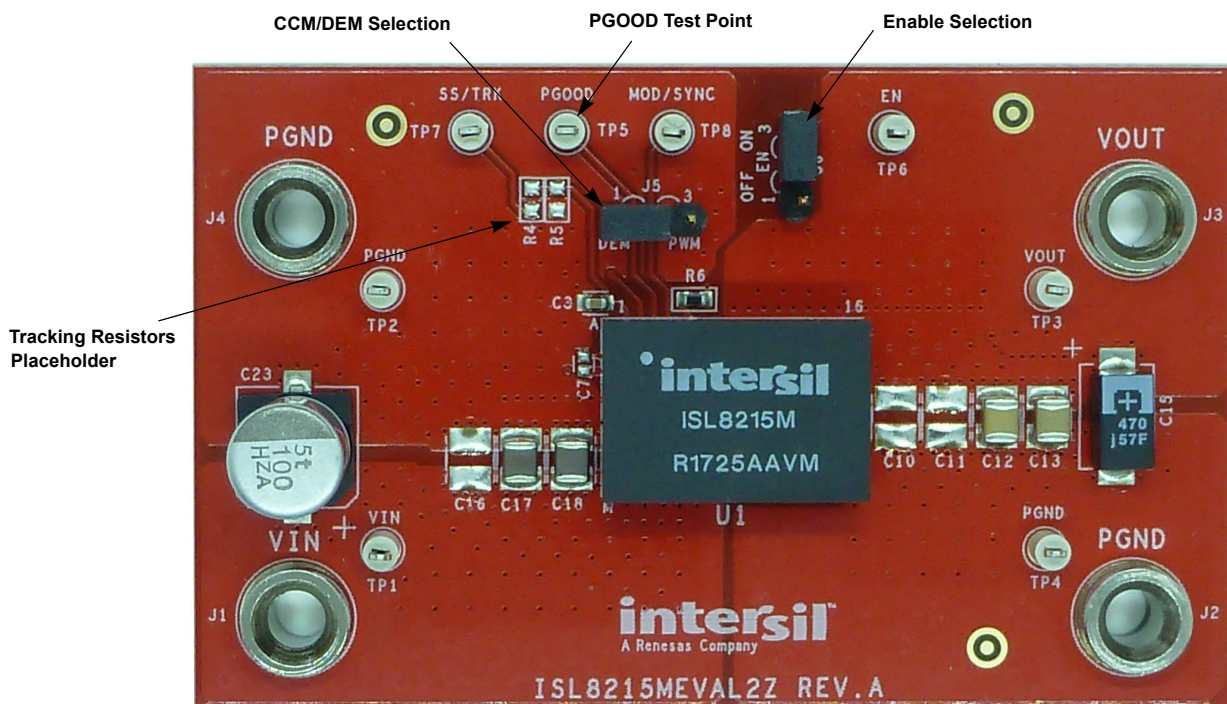
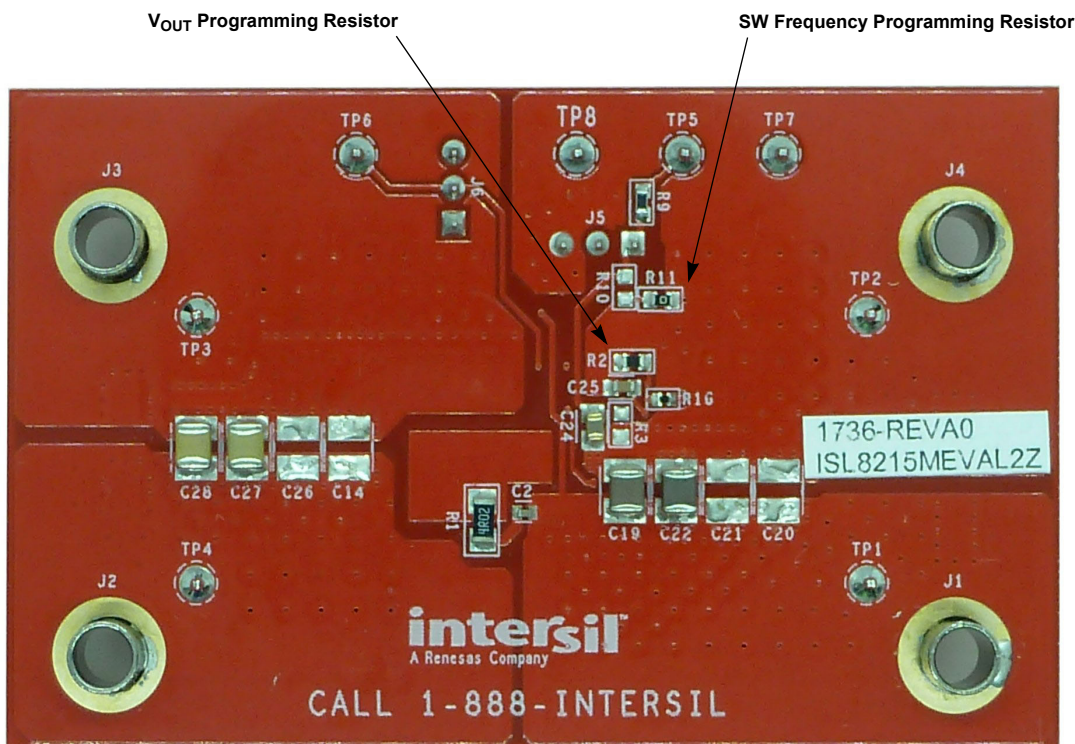

Figure 2. Top of Board
Figure 3. Bottom of Board
The ISL8215MEVAL2Z provides the peripheral circuitry to evaluate the feature set of the ISL8215M. The evaluation board includes several connectors, test points, and jumpers that make validation of the module easy. The converter can be enabled and disabled by moving the jumper across the EN pin as shown in Figure 2 on page 6. Connecting a jumper across the pins as shown in Figure 2 enables the PSM/DEM mode of operation, which can lead to higher efficiencies at light loads. Resistors R₄ and R₅ (Figure 2) can be used to evaluate the tracking functionality. Selecting features like external frequency synchronization can be performed by connecting the signal generator (square pulse waveform clock signal) to the MOD/SYNC pin. The output voltage (0.6V to 12V) and the switching frequency (300kHz to 2MHz) can be programmed by changing the resistors as shown in Figure 3 on page 6.
- (1) Disable the module by moving the jumper across the EN pin as shown in Figure 2.
- (2) Use the appropriate cables to connect the DC input power supply to banana sockets J₁ and J₄ and the electronic load to sockets J₃ and J₂. Ensure that the polarity for the power leads is correct and the input voltage is within the operating range of the module (7V to 42V). Use test points TP₁ (VIN) and TP₂ (PGND) to accurately measure the input voltage.
- (3) Move the connector for the EN pin to ON to enable the module. You can also remove the connector completely.
- (4) Turn on the input power supply.
- (5) Probe test points TP₃ (VOUT) and TP₄ (PGND) to observe the output voltage. The output voltage should read 3.3V.
- (6) Adjust the input voltage, V_{IN}, within the specified range and observe the output voltage. The output voltage variation should be within ±1.5%.
- (7) Adjust the load current to within the specified range (0 to 15A) and observe the output voltage. The output voltage variation should be within ±1.5%.
- (8) To change V_{OUT}, disconnect the evaluation board from the setup and populate a standard 0603 resistor at the R₂ placeholder location on the bottom layer. The “Output Voltage Resistor Settings” table in the ISL8215M datasheet can be used as a reference for programming different output voltages. Refer to the “ISL8215M Design Guide Matrix” table in the ISL8215M datasheet for correct input and output capacitors, switching frequency, and output voltage combinations.
- (9) To change the switching frequency, populate a standard 0603 resistor at the R₁₁ placeholder location on the bottom layer. Refer to “Equation 2” in the ISL8215M datasheet for selecting the correct value of R₁₁ within admissible operating range (300kHz - 2MHz).